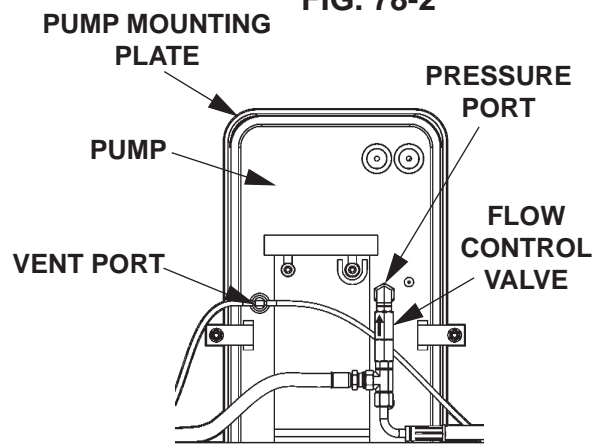

FIG. 78-3
7. Check if Flow Control Valve (**FIG. 78-3**) is pointing to the direction of restricted fluid flow (pointing up and back toward pump). If required, remove Flow Control Valve and install it correctly (**FIG. 78-3**).